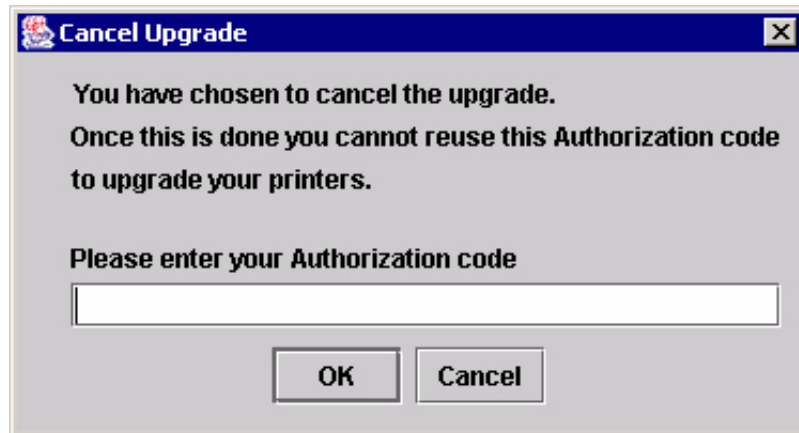

Figure 98. The Cancel Upgrade Dialog Box
3. Click **Cancel Upgrade**. The Cancel Upgrade dialog box opens. See Figure 98.